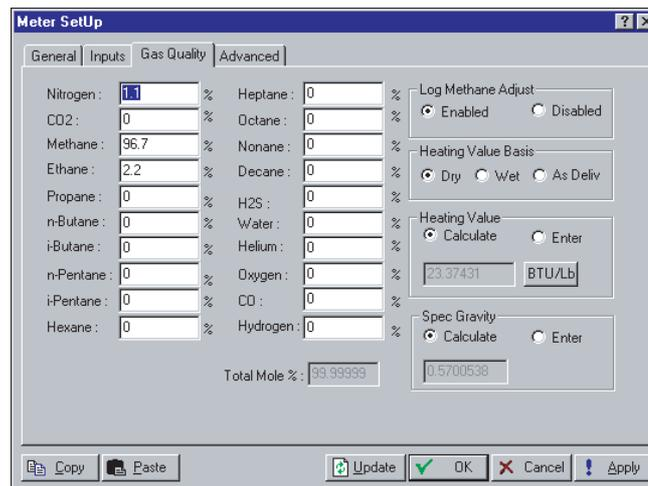

Figura 5-5. Gas Quality
1. Selecione Meter > Setup > guia **Gas Quality**. Consulte a Figura 5-5.